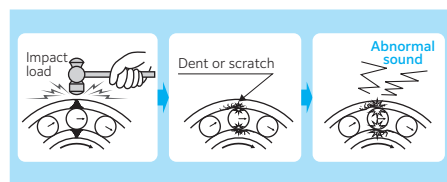

Fig. 15.1 Damage caused by impact
**Bearings are vulnerable to impact. Do not hit them with a hammer directly or drop them on the floor** (see Fig. 15.1).